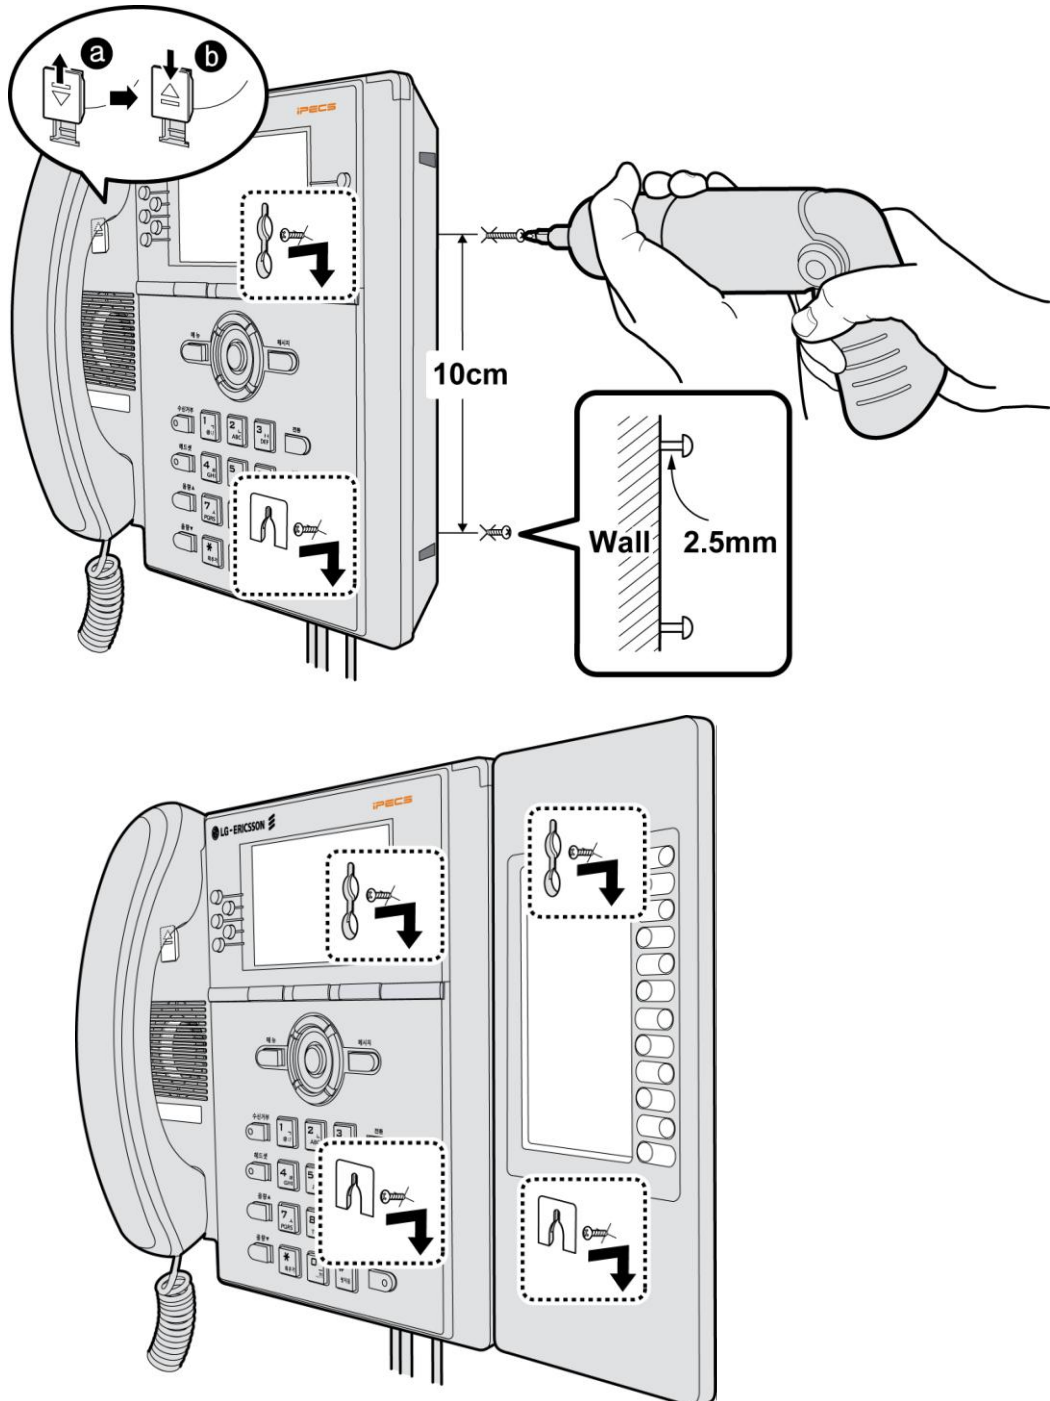

Figure 4.7-1 LIP-8000 Wall Mount Installation
The LIP-8000 series phones incorporate wall mount into the base of the phone housing. Using the instructions below and Figure 4.7-1, wall mount the LIP-8000 phone.
- Mark and drill two (2) 7mm holes for plastic wall anchors.
- Insert the two (2) anchors into the holes and insert and tighten the 2 screws leaving about 2.5 mm (1/8-inch) exposed. Refer to Figure 4.7-1.